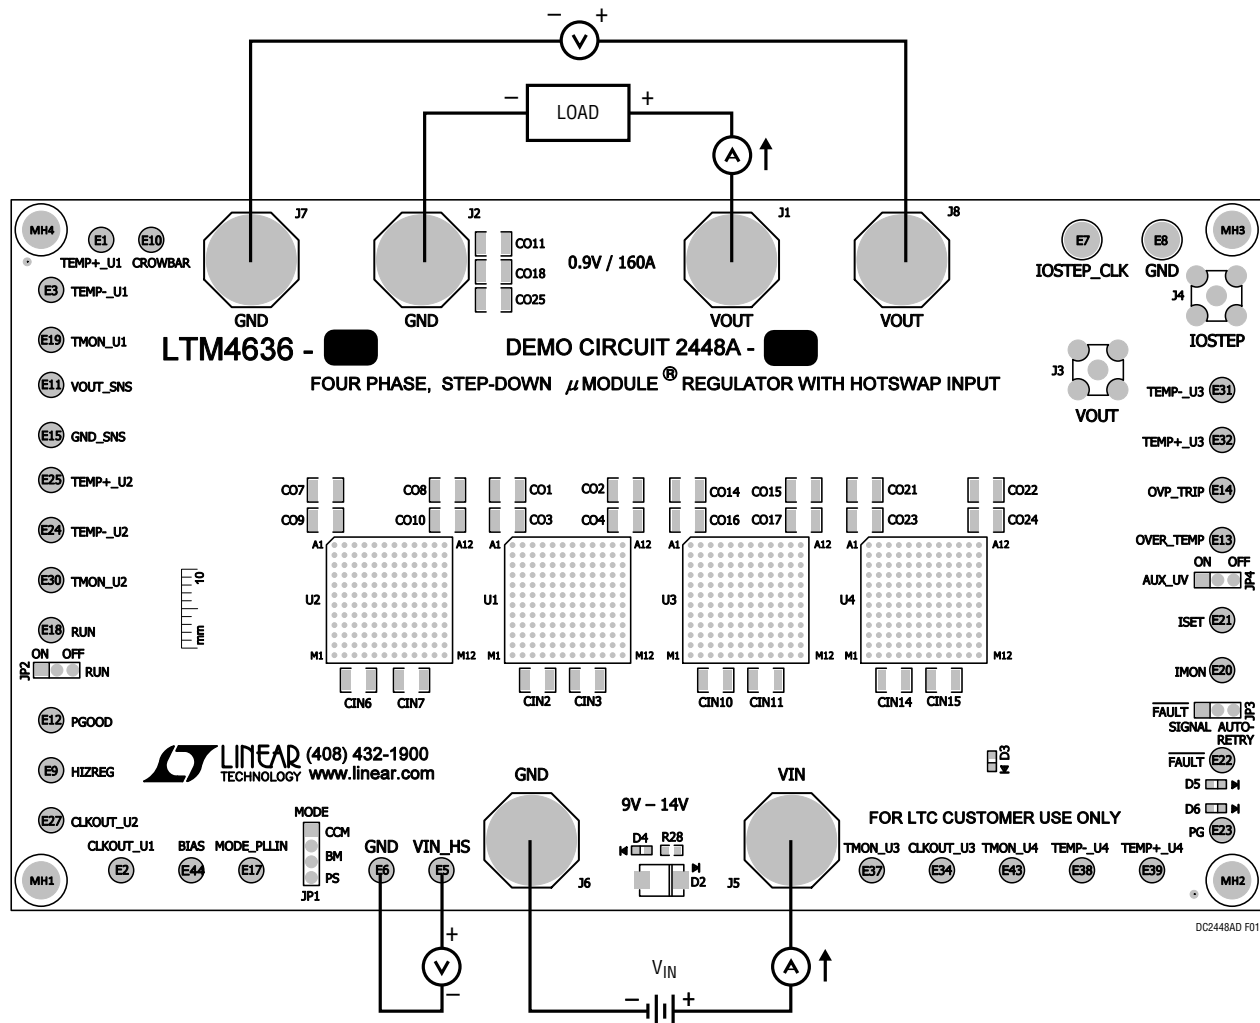

Figure 1. Measurement Setup of DC2448A-D
Demonstration circuit DC2448A-D is an easy way to evaluate the performance of PolyPhase operation of the LTM4636-1EY. Due to the high input/output current, the user should select the proper input supply/load/cable which can sustain the full load operation. Please refer to Figure 1 for proper measurement equipment setup and follow the procedure below:
2. With power off, connect the input power supply, load and meters as shown in Figure 1. Preset the load to 0A and V_{IN} supply to 12V.